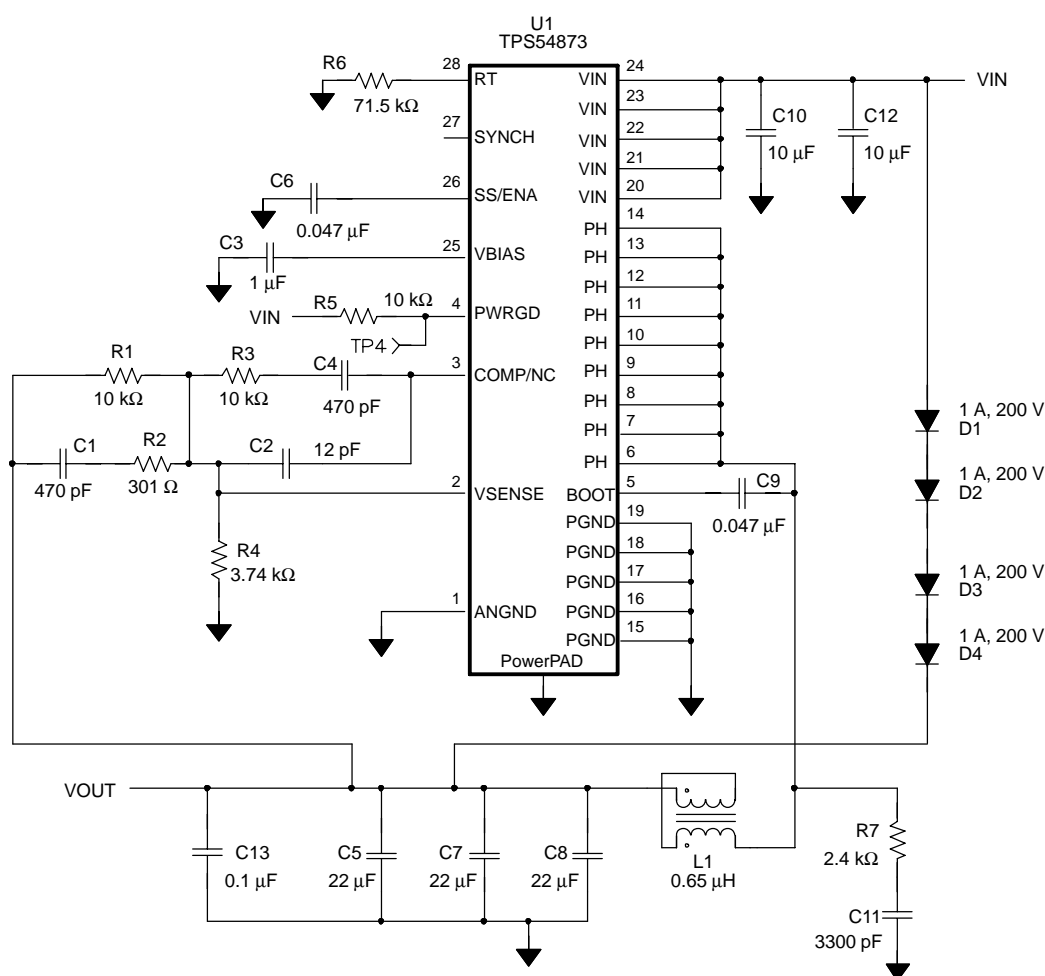

Figure 9. Application Circuit
(1) Specified by design
(2) Static resistive loads only
(3) Specified by the circuit used in Figure 9
(4) Matched MOSFETs low-side r_{DS(on)} production tested, high-side r_{DS(on)} specified by design
Figure 9 shows the schematic diagram for a typical TPS54873 application. The TPS54873 (U1) can provide up to 8 A of output current at a nominal output voltage of 0.9 V to 3.3 V, and for this application, the output voltage